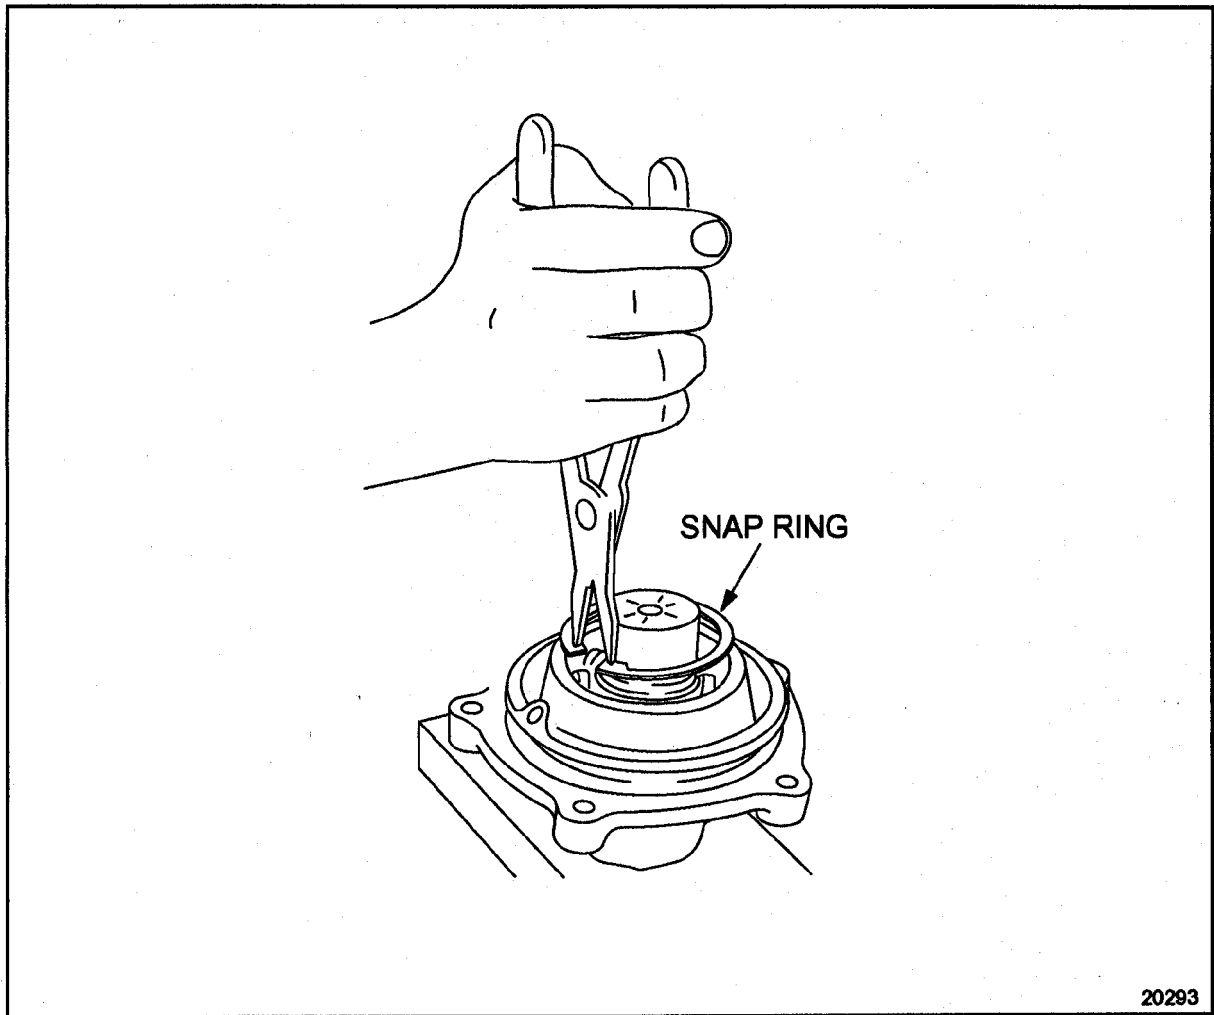

Figure 1-419 Snap Ring Installation
12. Install the snap ring to the accessory drive housing making sure the snap ring is fully seated in the groove a full 360 degrees See Figure 1-419.